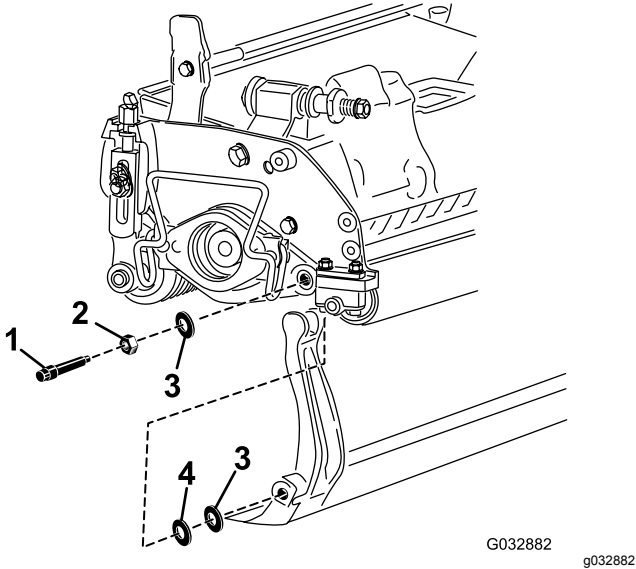

Figure 15
Account for the 2 nylon washers and 1 steel washer on each end of the bedbar (Figure 15).
- Position a nylon washer on each side of the side-plate boss. Place a steel washer outside each of the nylon washers (Figure 15).